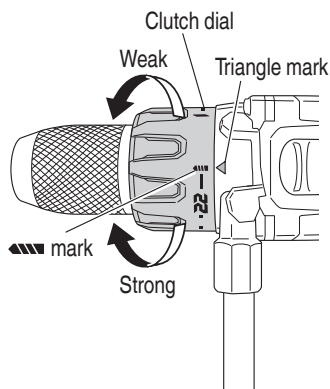

Fig. 16
7. Confirm the clutch dial position (See Fig. 16).
- (2) Tightening torque indication (See Fig. 16, 18)
- (3) Adjusting the tightening torque (See Fig. 16, 18)